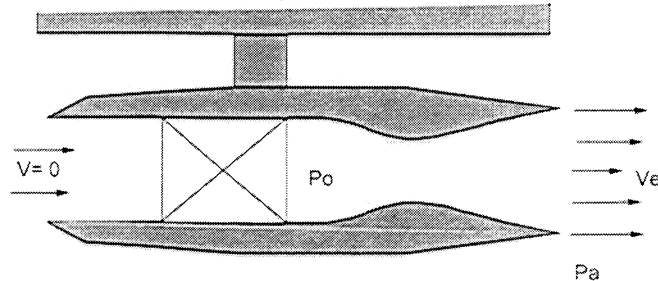

Fig. 1
- (b) The thrust of a turbojet engine is measured in a stationary test facility as illustrated in Fig.1. The propulsive nozzle of the engine is a convergent-divergent nozzle with a throat diameter of 0.3 m and an exit area to throat area ratio A_e/A^* of 1.25. The stagnation pressure at inlet to the nozzle is 4.25 bar and the ambient static pressure in the test facility is 1 bar. The flow velocity at inlet to the engine is negligible. Show that these conditions are compatible with isentropic flow within and downstream of the nozzle and calculate the thrust that the engine produces at this condition. [35%]